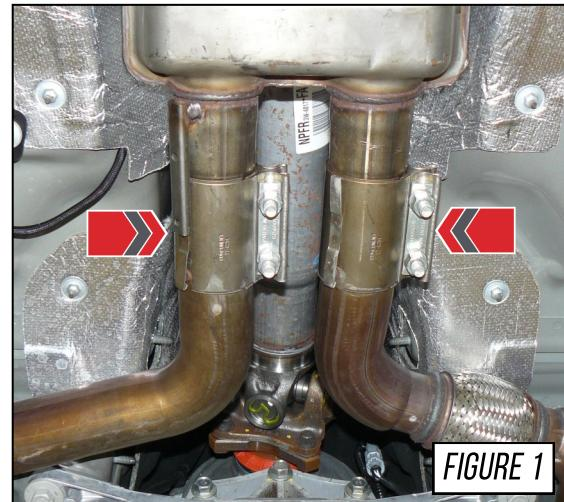

FIGURE 1
Loosen the two (2) factory sleeve clamps located just forward from the mid muffler with a 15mm socket, as shown by the arrows in **Figure 1**.